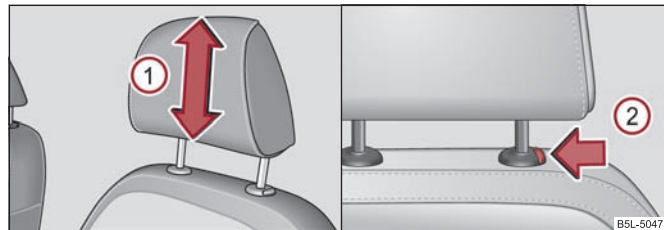

Fig. 58 Head restraint: Adjusting / pulling out
- Grasp the side of the head restraint with both hands and push the head restraint up or down in direction of arrow (1) ⇒ fig. 58. ▶
- Move the head restraint downwards if required by pressing the locking button with one hand in direction of arrow (2) ⇒ page 72, fig. 58 and by pressing with the other hand the head restraint downwards.
- Press the locking button in the direction of arrow ⇒ page 72, fig. 58 and pull the head restraint out.